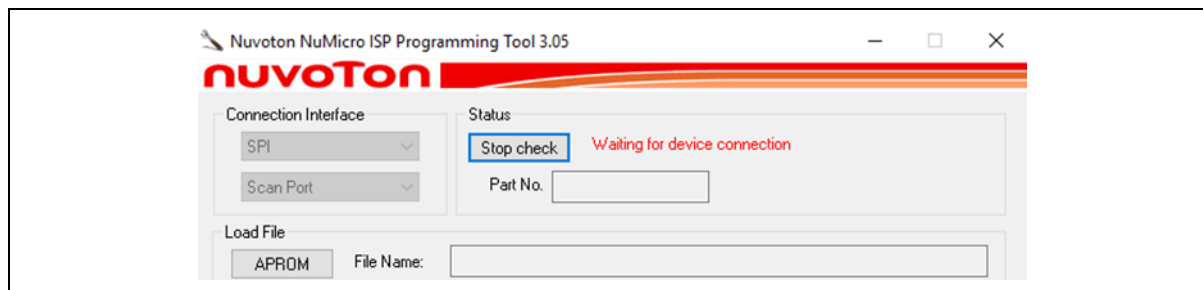

Figure 5.2-48 ISP is not connected to any device of ISP Tool
- (3) In the ISP Tool window, the connection status is shown as “Disconnected” since the ISP tool has not been connected with the target chip, as shown in Figure 5.2-48.